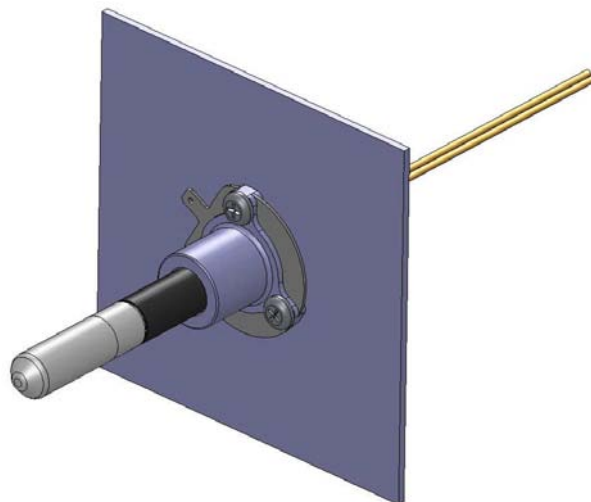

Figure 2 HMM100 Probe Mounted in Flange
4. To mount the probe in the flange: push the probe through the flange so that the filter is past the silicone, and enough of the probe remains inside the flange to hold it tightly. See Figure 2